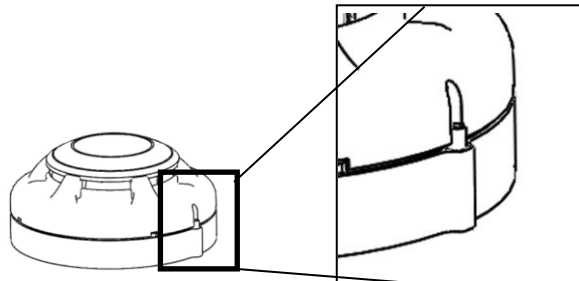

Figure 11: Position of the locking screw to lock the detector
2. Install the detector into the mounting base, making sure the wiring does not obstruct mounting of the detector head. Push the detector into the mounting base while turning it clockwise until the detector locks into place. Use a small hexagonal wrench to set the tamper resist feature (if required), see Figure 11.
The EVA-UB series of smoke/heat detector mounting bases have a tamper-resist feature that works in conjunction with the detectors. When this feature is enabled, the detectors cannot be removed from the base without the use of a small hexagonal wrench. To avoid unauthorized removal of the detector, turn the locking screw in the mounting base counterclockwise until the screw extends out about 4 mm (3/16 in.) from the rim of the base, as shown in Figure 11.